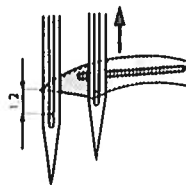

fig. 5
- Check that the point of the looper, in its stroke to the left, when it is exactly in the lefthand tangent of the outside needle, is 1.2 mm (3/64") above the upper tangent of the outer needle eye (fig. 5).